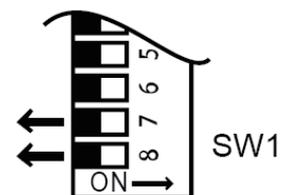

Fig. 7
16. **IMPORTANT:** Set dip switch No.7 and No.8 of SW1 to 'OFF' to return the appliance to '**Normal**' combustion (Fig. 7).